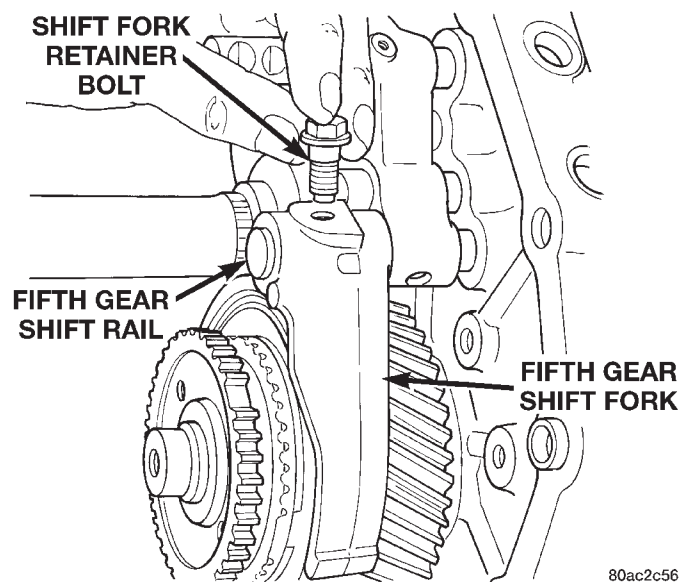

Fig. 95 Install Fifth Gear Retainer Bolt
(43) Position the countershaft fifth gear assembly on the countershaft. Ensure that the fifth gear fork is installed onto the fifth gear shift rail.
(44) Install the fifth gear synchro ring.
(45) Position the fifth gear blocker ring onto the countershaft.
(46) Using a suitable mallet and spacer, tap the fifth gear blocker ring onto the countershaft.
(47) Install new bolt to hold fifth gear shift fork to the fifth gear shift rail (Fig. 95).